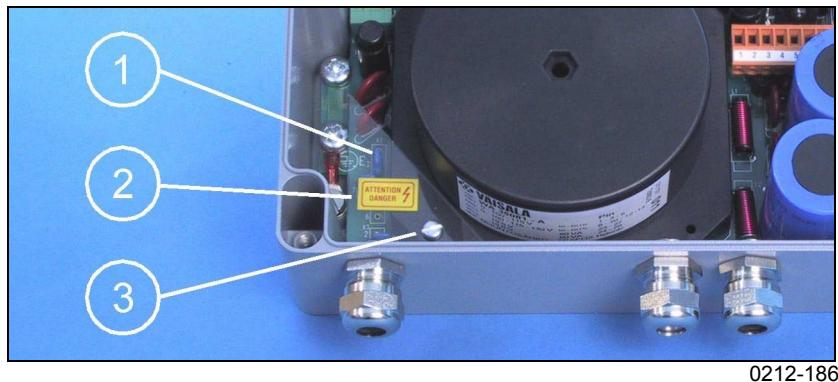

Figure 3 Location of the WHP25 Jumpers
3. If the local voltage level is other than 230 VAC, reselect the voltage with the X2 and X3 jumpers located inside the WHP25 unit. For the location of the jumpers, refer to Figure 3 on page 11. For instructions how to set the jumpers for different input voltages, refer to Figure 4 on page 11.
The following numbers refer to Figure 3 above.